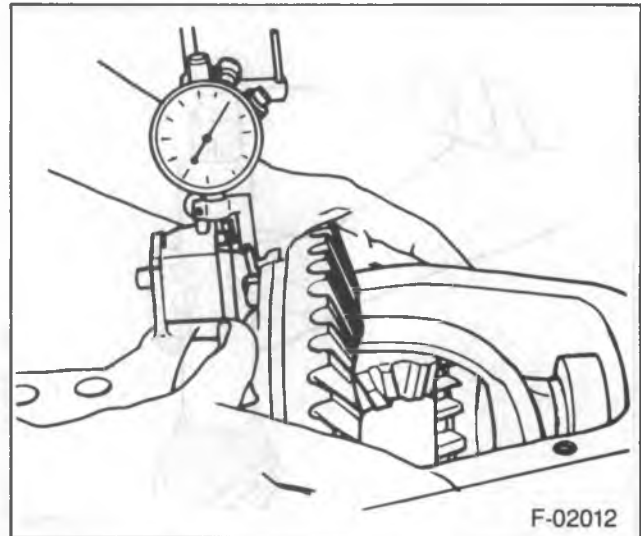

Figure 77—Measuring Differential Movement
1. Assemble the differential case (22) with master bearings installed to the axle housing. The pinion must be installed.
2. Mount a dial indicator having a minimum travel of 0.200-inch with a magnetic base on the ring gear bolt side of the housing (figure 77).
3. Mount a dial indicator having a minimum travel of 0.200-inch with a magnetic base on the ring gear bolt side of the housing (figure 77).